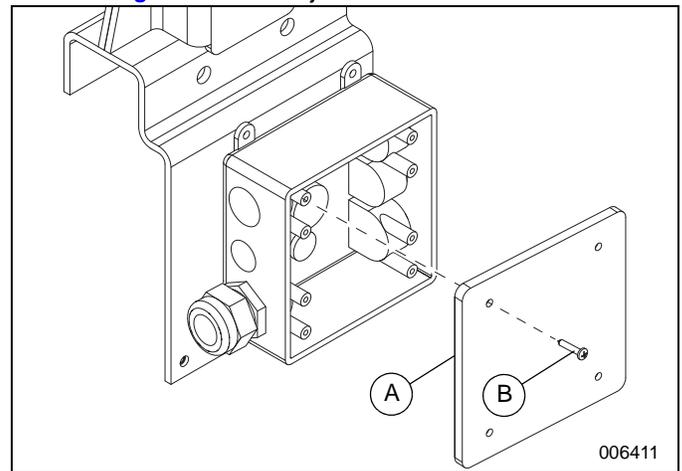

Figure 16. Junction Box Cover Installation
12. See **Figure 16**. Install junction box cover.